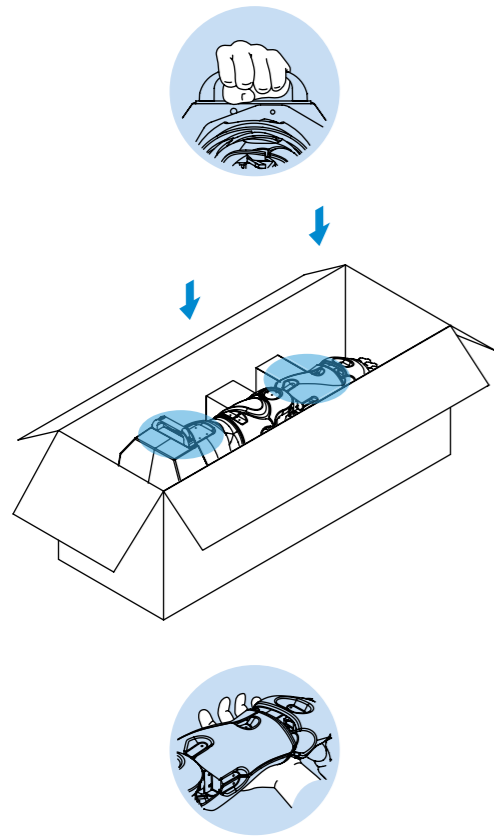

**Figure 26.**
10. Install the stand-logement in the package (Figure 26).